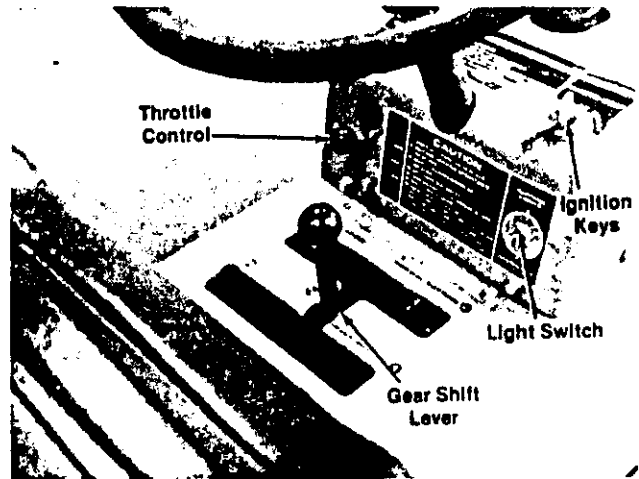

FIGURE 11.
- a. **Throttle Control.** The throttle control is used to regulate the engine speed and choke the engine. The engine should be operated from ¾ to full throttle when operating the cutting deck. See figure 11.
- b. **Gear Shift Lever.** The gear shift lever is used to shift into one of three **Forward Gears**, **NEUTRAL** or **REVERSE**. See figure 11.
- c. **Light Switch.** Push the light switch up to turn on the lights. The lights will only operate when the engine is running. See figure 11.
- d. **Ignition Switch.** The ignition switch is located on the right side of the dashboard. See figure 11. Turn the key to the **START** position, to start the engine. When the engine is running, let the key return to the **ON** position. To stop the engine, turn the key to the left to the **OFF** position and remove it to prevent accidental starting.